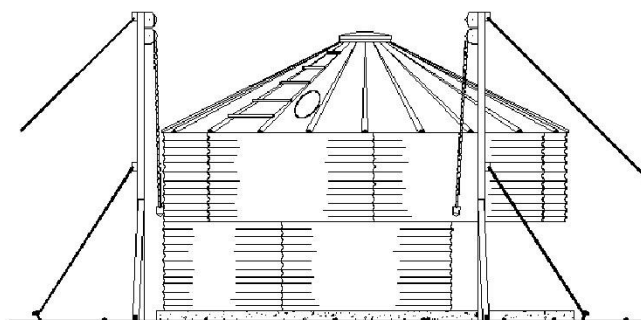

Figure 5
- 3- Attach the lifting jacks to the stiffeners (or to the holes lines of stiffeners in case they are not installed yet) and raise the silo high enough to let the assembly of the next body-sheets ring. (See figure 5)